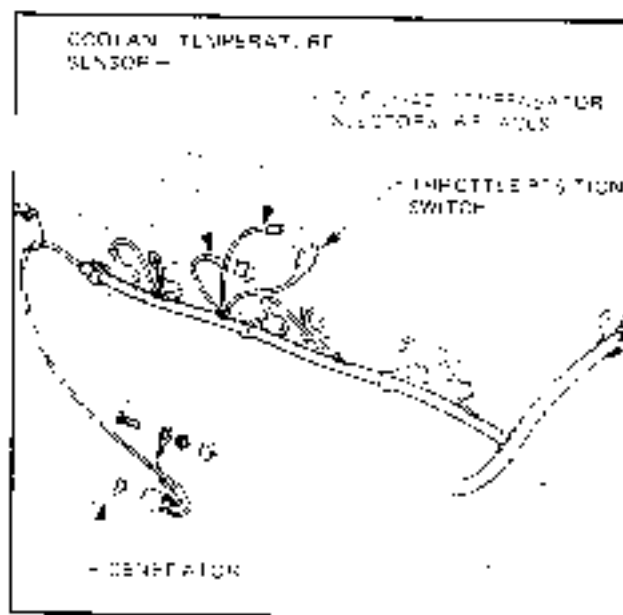

Figure 6C-84
7. Disconnect E.G.H. pipe from inlet and extractor manifolds. Refer Fig. 6C-85.